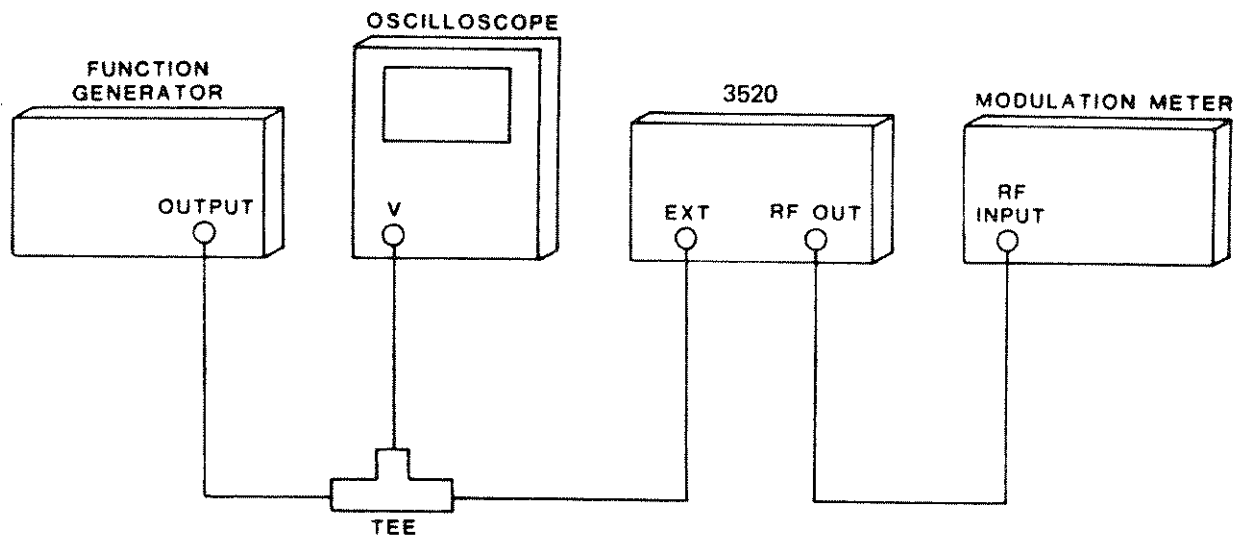

Figure 4-3. Setup for AM and FM Bandwidth
2. Connect the equipment as shown in Figure 4-3.